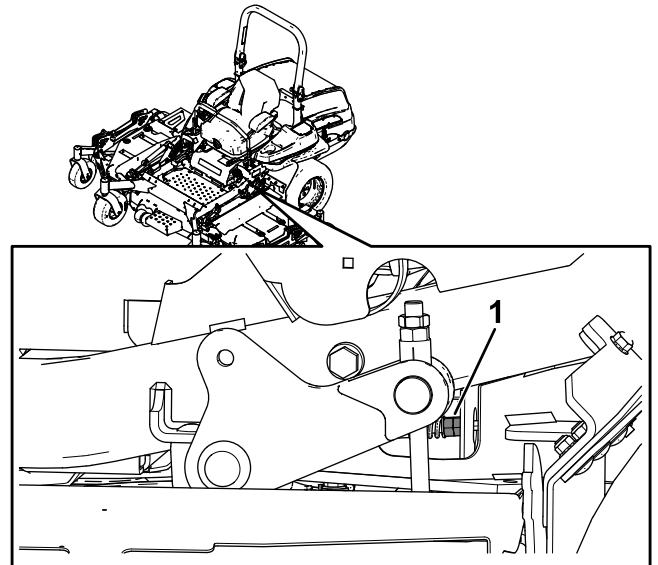

Figure 66
- Adjust the pump-control-rod lengths by rotating the double nuts on the rod in the appropriate direction until the wheels slightly creep in reverse (Figure 66).